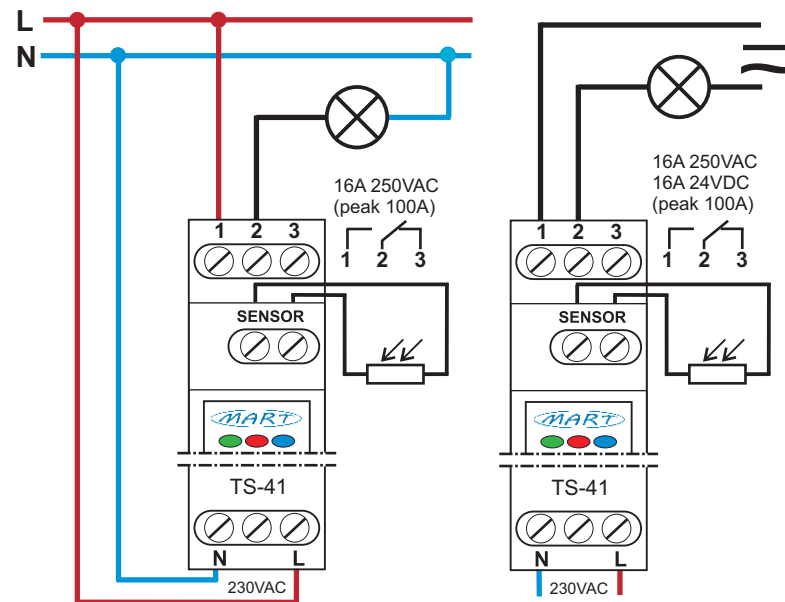

Fig. 2. : Connection diagrams for the TS-41-4 TWILIGHT SWITCH automatic device.
3. connect the wires in accordance with the diagram (fig. 2)